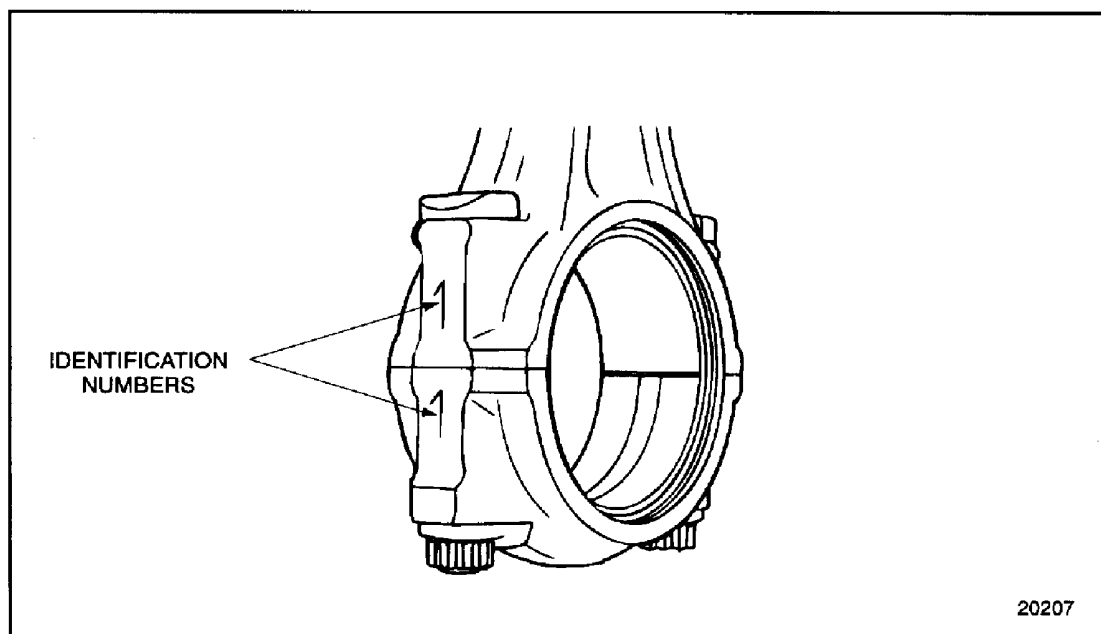

Figure 1-251 Connecting Rod and Cap Identification
21. Install the bearing cap. The No. on the cap and rod should be on the same (oil cooler) side. See Figure 1-251.